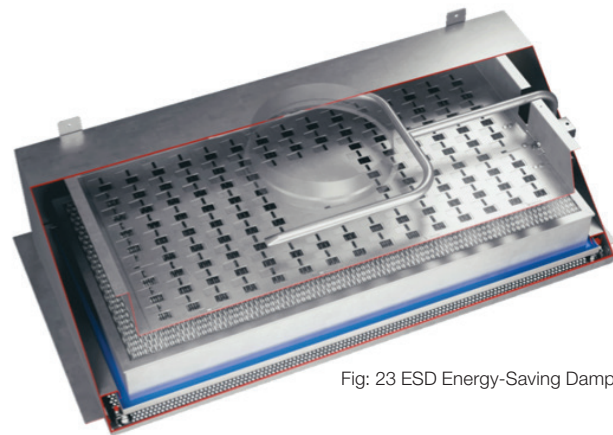

Fig: 23 ESD Energy-Saving Damper
The ESD utilizes a proprietary, pressurized plenum design that minimizes system resistance to industry lows while also providing superior airflow uniformity. The ESD is operated and adjusted from the room side with a Phillips head screwdriver via mechanical rod and rack & pinion control, affording infinite fine-tuning adjustment over a minimum of ten (10) full turns and making it inherently self-locking (see Fig 23).